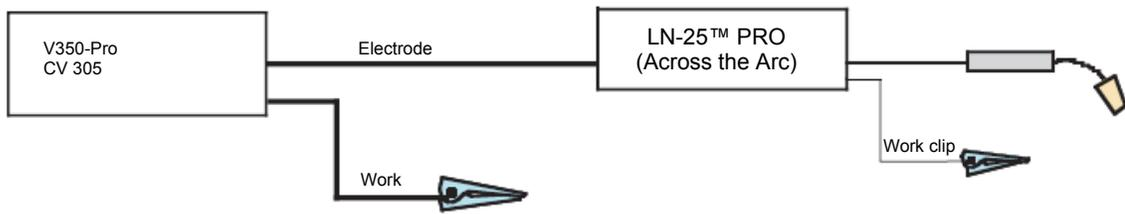

**Figure 6**
**CV power sources with stud connectors and no remote/local switch. (see figure 6)**